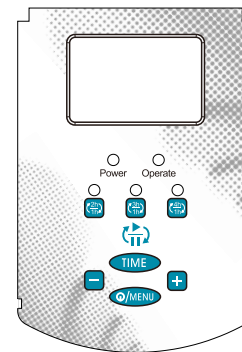

Figure 3
4. Optional shortcuts: press one of the optional shortcuts (the figures are as shown in figure 3) to adjust the operation model according to the requirement in operation.